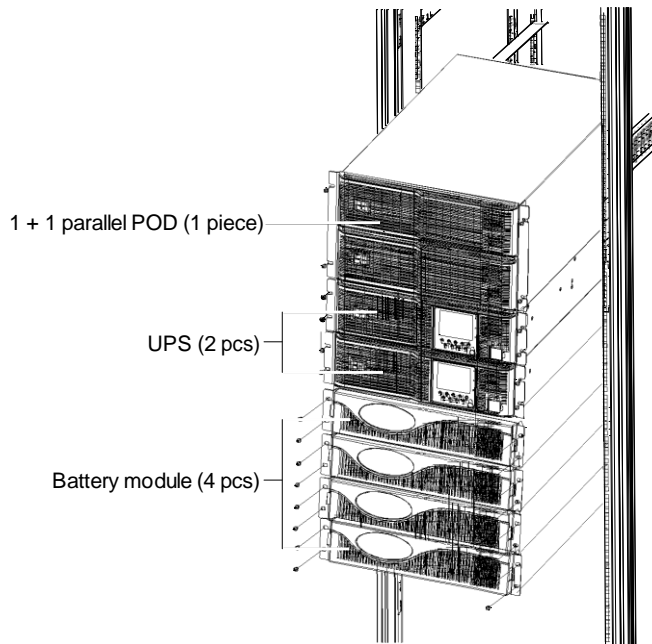

Figure 2-18 1 + 1 parallel system including battery modules
2. As shown in Figure 2-18, the battery module should be installed at the bottom, the UPS should be installed in the middle, and the 1 + 1 parallel POD should be installed on the top, so as to facilitate the cable connection and operation.